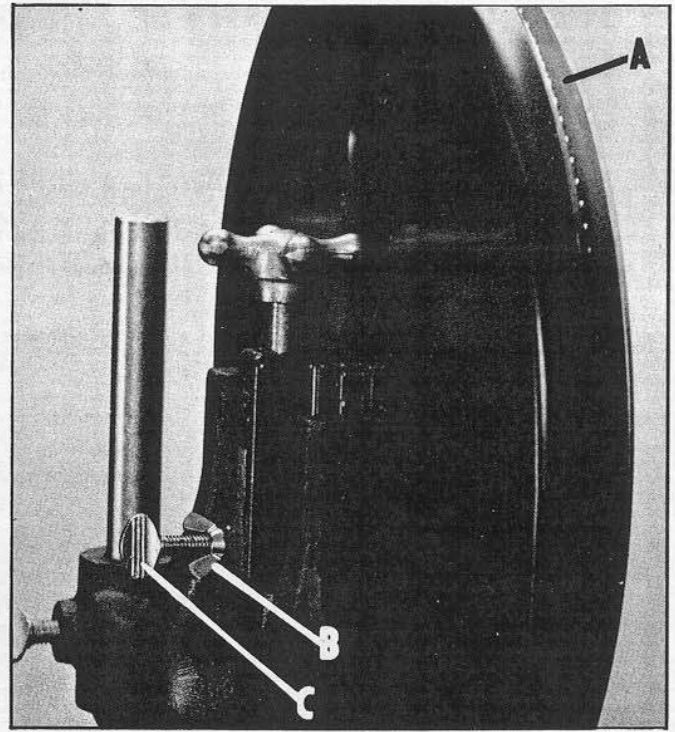

Fig. 14
After tension has been applied to the blade, revolve the wheels slowly forward by hand and watch the blade (A) Fig. 14, to see that it travels in the center of the upper tire. If the blade begins to creep toward the front edge, loosen the wing nut (B) and tighten the thumb screw (C). This will tilt the top of the wheel toward the back of the machine and will draw the blade toward the center of the tire. If the blade creeps toward the back edge, turn the thumb screw (C) in the opposite direction. Adjust the thumb screw (C) only a fraction of a turn at a time. **NEVER TRACK THE BLADE WHILE THE MACHINE IS RUNNING.** After the blade is tracking in the center of the tires, tighten the wing nut (B) Fig. 14.